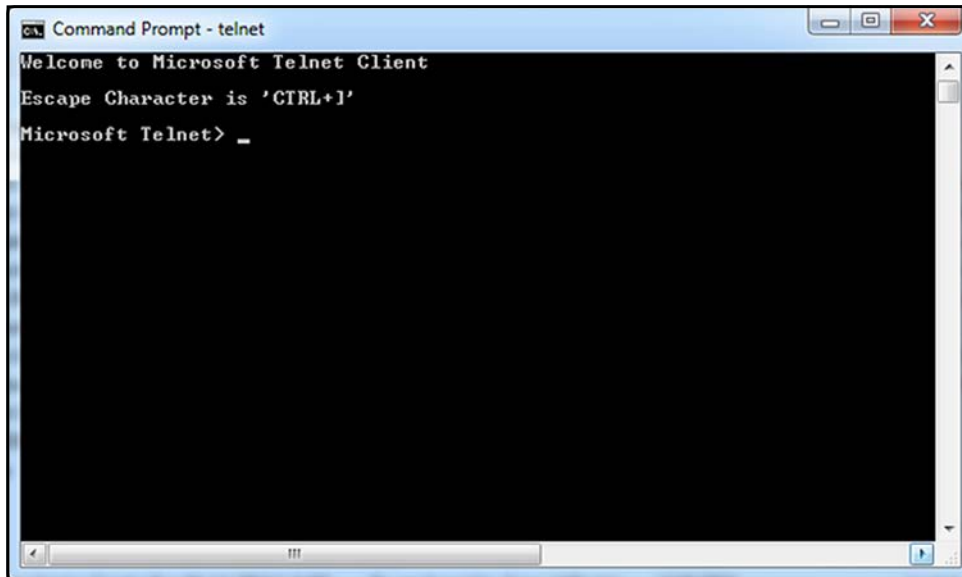

Figure 115: Telnet Client
1. At a Windows command prompt, enter `telnet` to run the Telnet client (see *Figure 115* below).